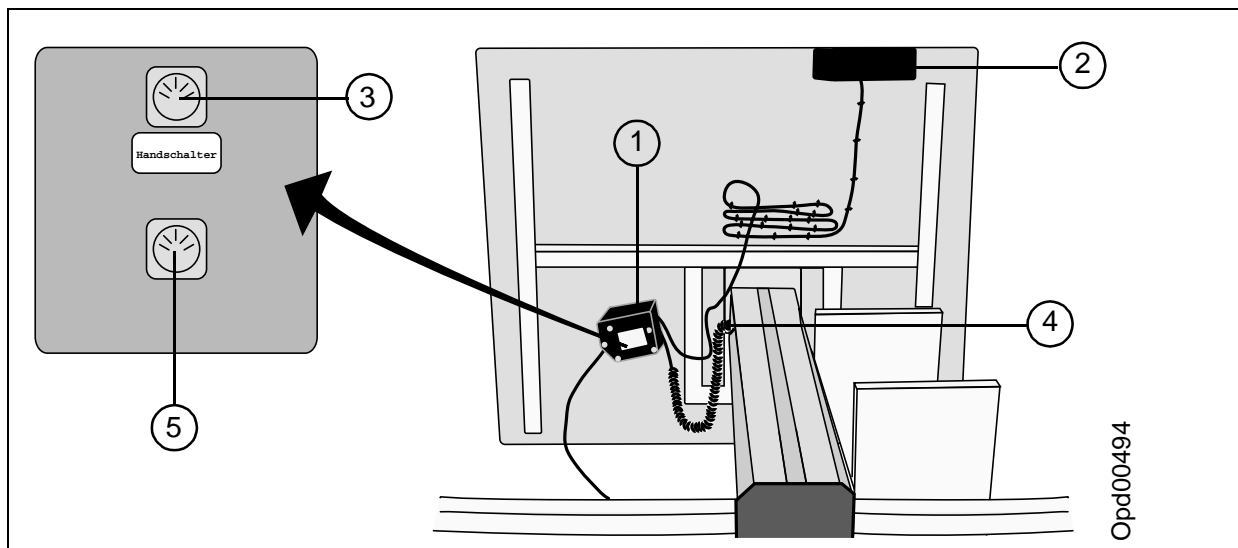

Fig. 1
1. Remove the screws on the underside of the tabletop and use them when mounting the transformer (1/Fig. 1). Place the transformer so that the connectors are turned to the column.
2. Connect the cable from the control unit (2/Fig. 1) for the vertically adjustment to the connector marked "Handscharter" (3/Fig. 1).
3. Connect the cable from the motor (4/Fig. 1) for the vertically adjustment to the other connector (5/Fig. 1).